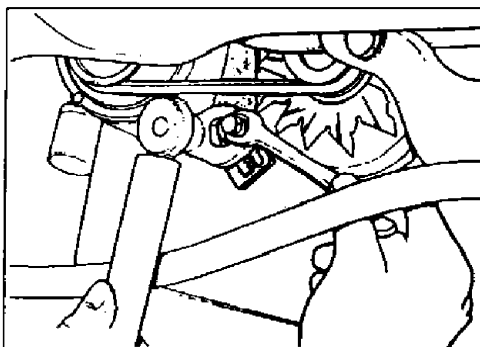

Fig. a3 - Tensioning method for alternator drive belt.
5. Tension the drive belt by applying and maintaining a torque of 10Nm (7.5 lb ft) to the pinion nut while at the same time tightening the centre locking bolt (Fig. a3).